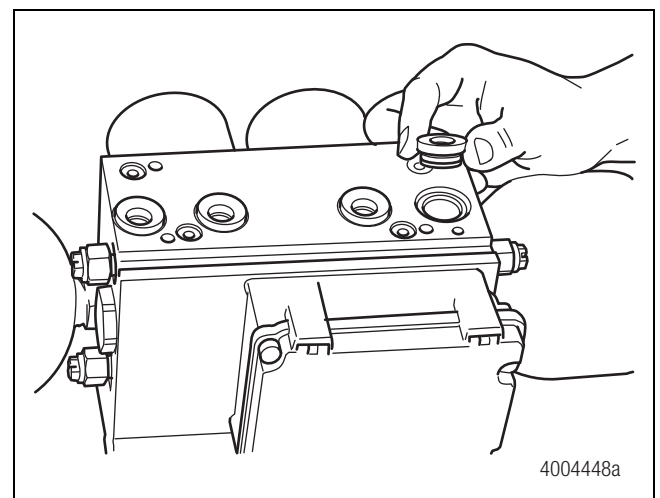

Figure 4.11
3. Install the four new black rubber grommets from the replacement kit into the ports on the top of the HCU. Figure 4.11.